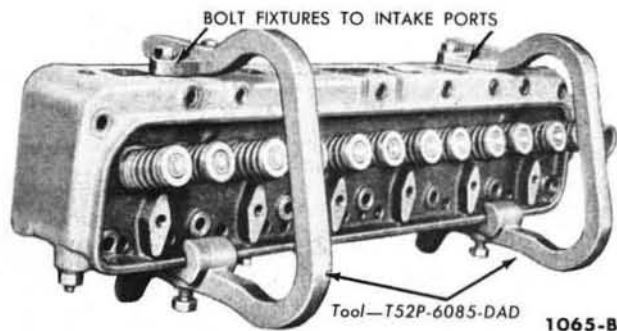
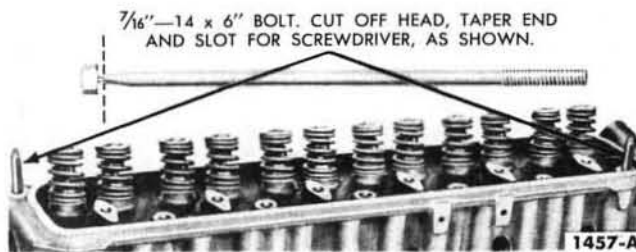

FIG. 15—Cylinder Head Holding Fixture
FIG. 16—Cylinder Head Guide Studs
4. Remove the manifold to cylinder head bolts, and pull the manifold assembly away from the cylinder head. Brace the assembly so the inlet pipe will not be damaged. Install the cylinder head holding fixtures for convenience in lifting the head and to protect the gasket surfaces (Fig. 15). Remove all cylinder head bolts. Install the cylinder head guide studs (Fig. 16). Lift the cylinder head assembly off the engine. Do not pry between the head and block as the gasket surfaces may become damaged.